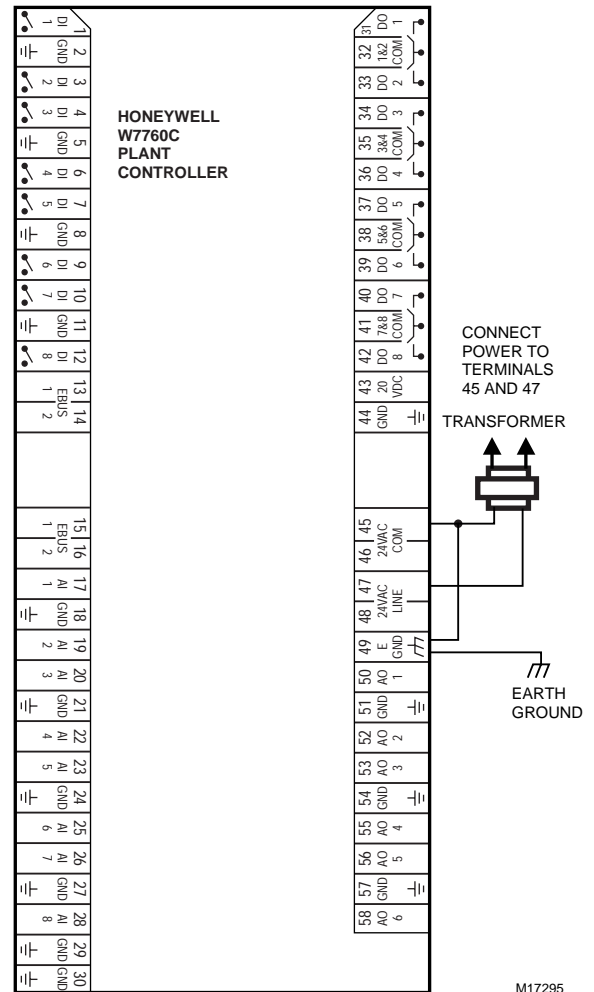

Fig. 37. Transformer power wiring details for one W7760C used in UL 1995 equipment (U.S. only).
*If the W7760C is used on **Heating and Cooling Equipment (UL 1995, U.S. only)** and the transformer primary power is more than 150 volts, connect the transformer secondary to earth ground. See Fig. 37. For these applications, only one W7760C Controller can be powered by each transformer.*